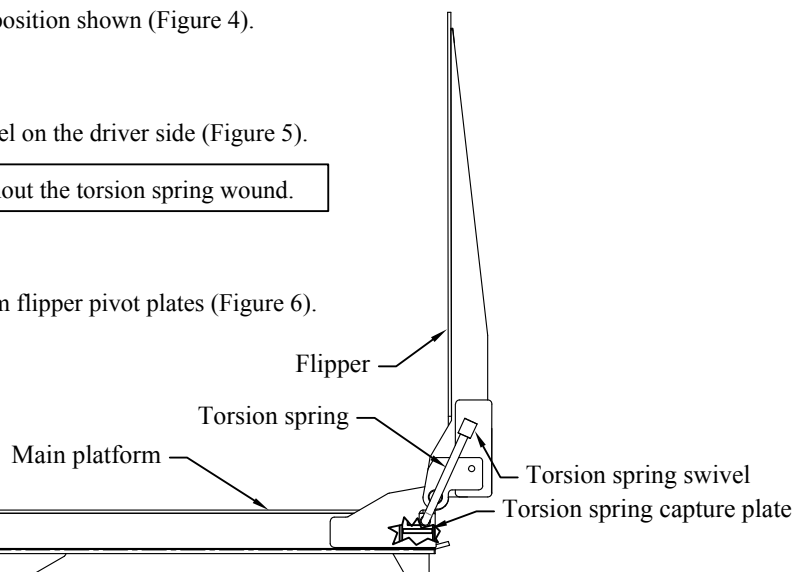

Figure 4: Platform position.
1. **RELIEVE** spring tension by rotating the flipper to roughly the position shown (Figure 4).